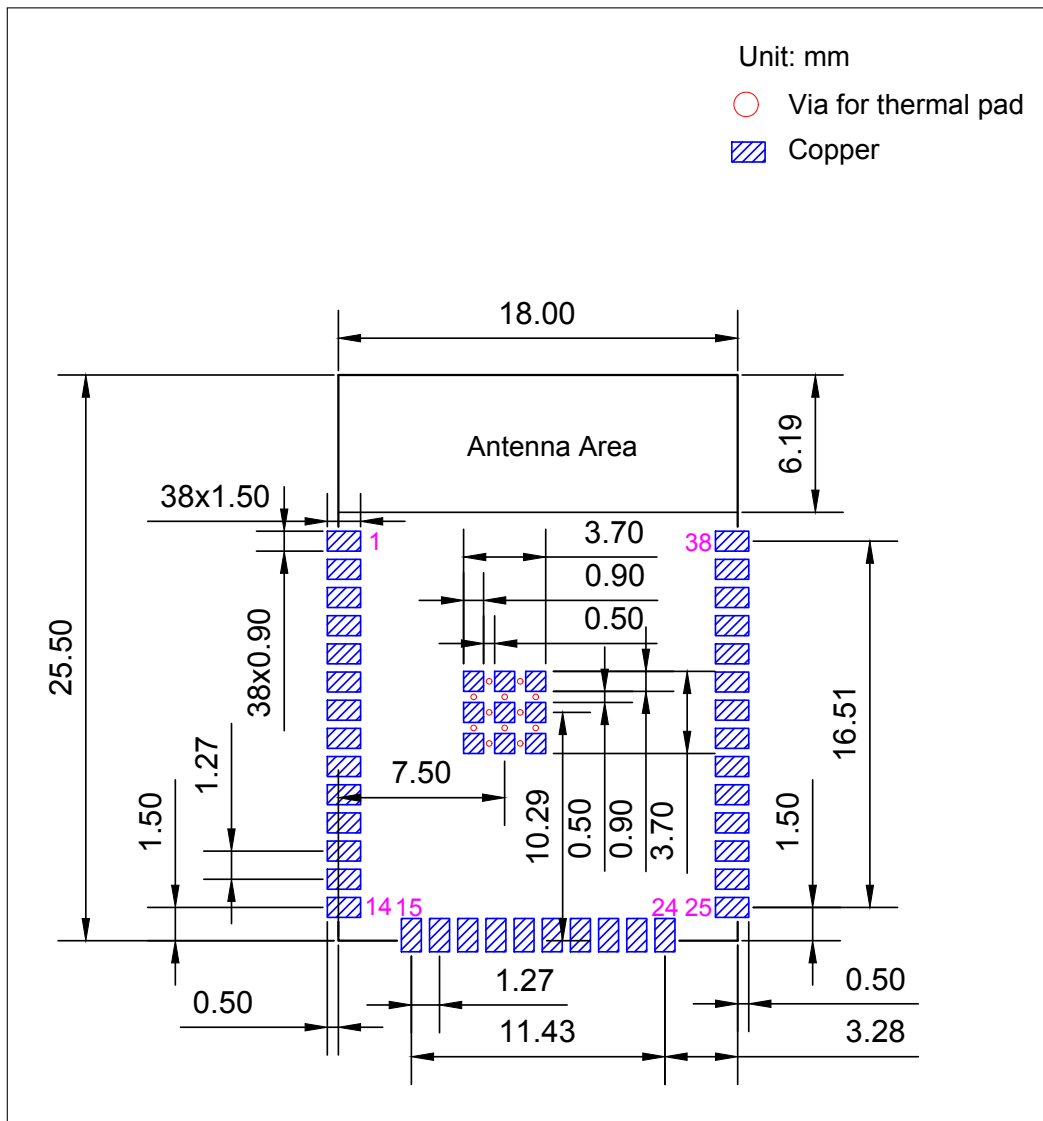

Figure 8: Recommended PCB Land Pattern of ESP32-WROOM-32D
- Figures for recommended PCB land patterns with all the dimensions needed for PCB design. See Figure 8 *Recommended PCB Land Pattern of ESP32-WROOM-32D* and Figure 9 *Recommended PCB Land Pattern of ESP32-WROOM-32U*.
- Source files of recommended PCB land patterns to measure dimensions not covered in Figure 8 and Figure 9. You can view the source files for ESP32-WROOM-32D and ESP32-WROOM-32U with Autodesk Viewer.